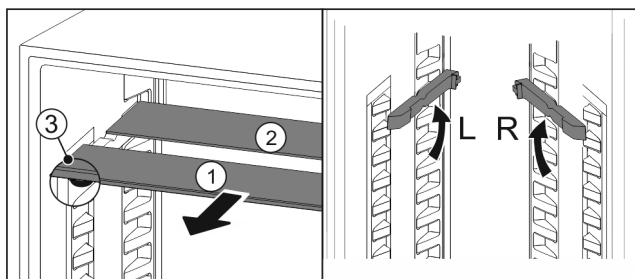

Fig. 86
- Pull the glass panels out Fig. 86 (1) from the front, one at a time.
- The glass panel Fig. 86 (1) and trim strip are at the front.
- The stops Fig. 86 (3) point down.